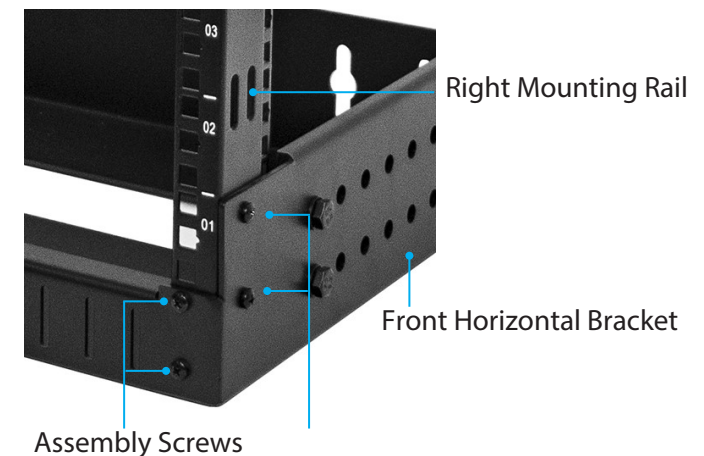

Figure 1
2. Insert the **Assembly Screws** (x 4) through the **Assembly Screw Holes** (x 4) on the **Front Horizontal Brackets** aligned in **Step 3** and tighten using a **Phillips Head Screwdriver**. (Figure 1)